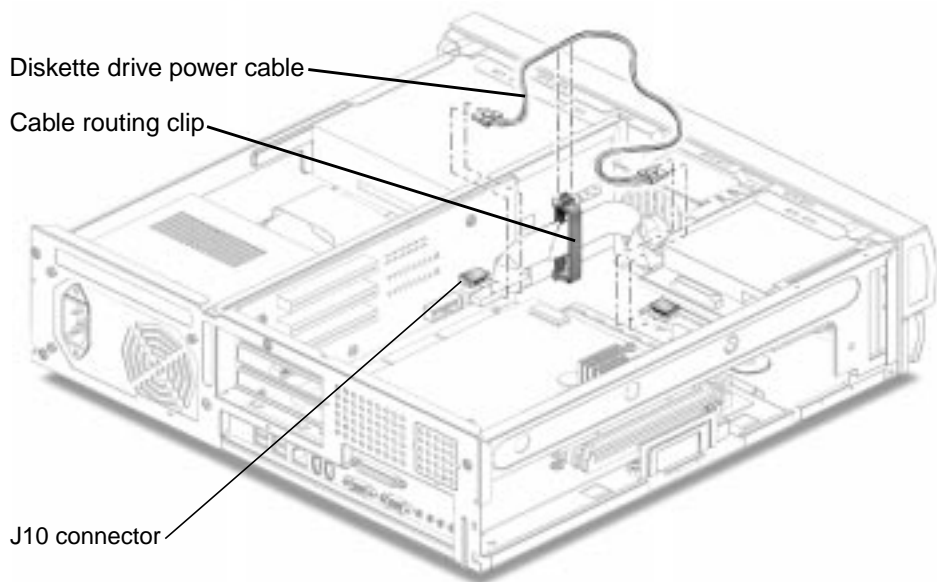

FIGURE 6-3 Removing and Replacing the Diskette Drive Power Cable Assembly
2. Remove the diskette drive power cable assembly connectors from the following (FIGURE 6-3):
3. Open the two cable routing clips (FIGURE 6-3).
1. **Position the diskette drive power cable assembly into the chassis** (FIGURE 6-3).
2. **Close the two cable routing clips** (FIGURE 6-3).